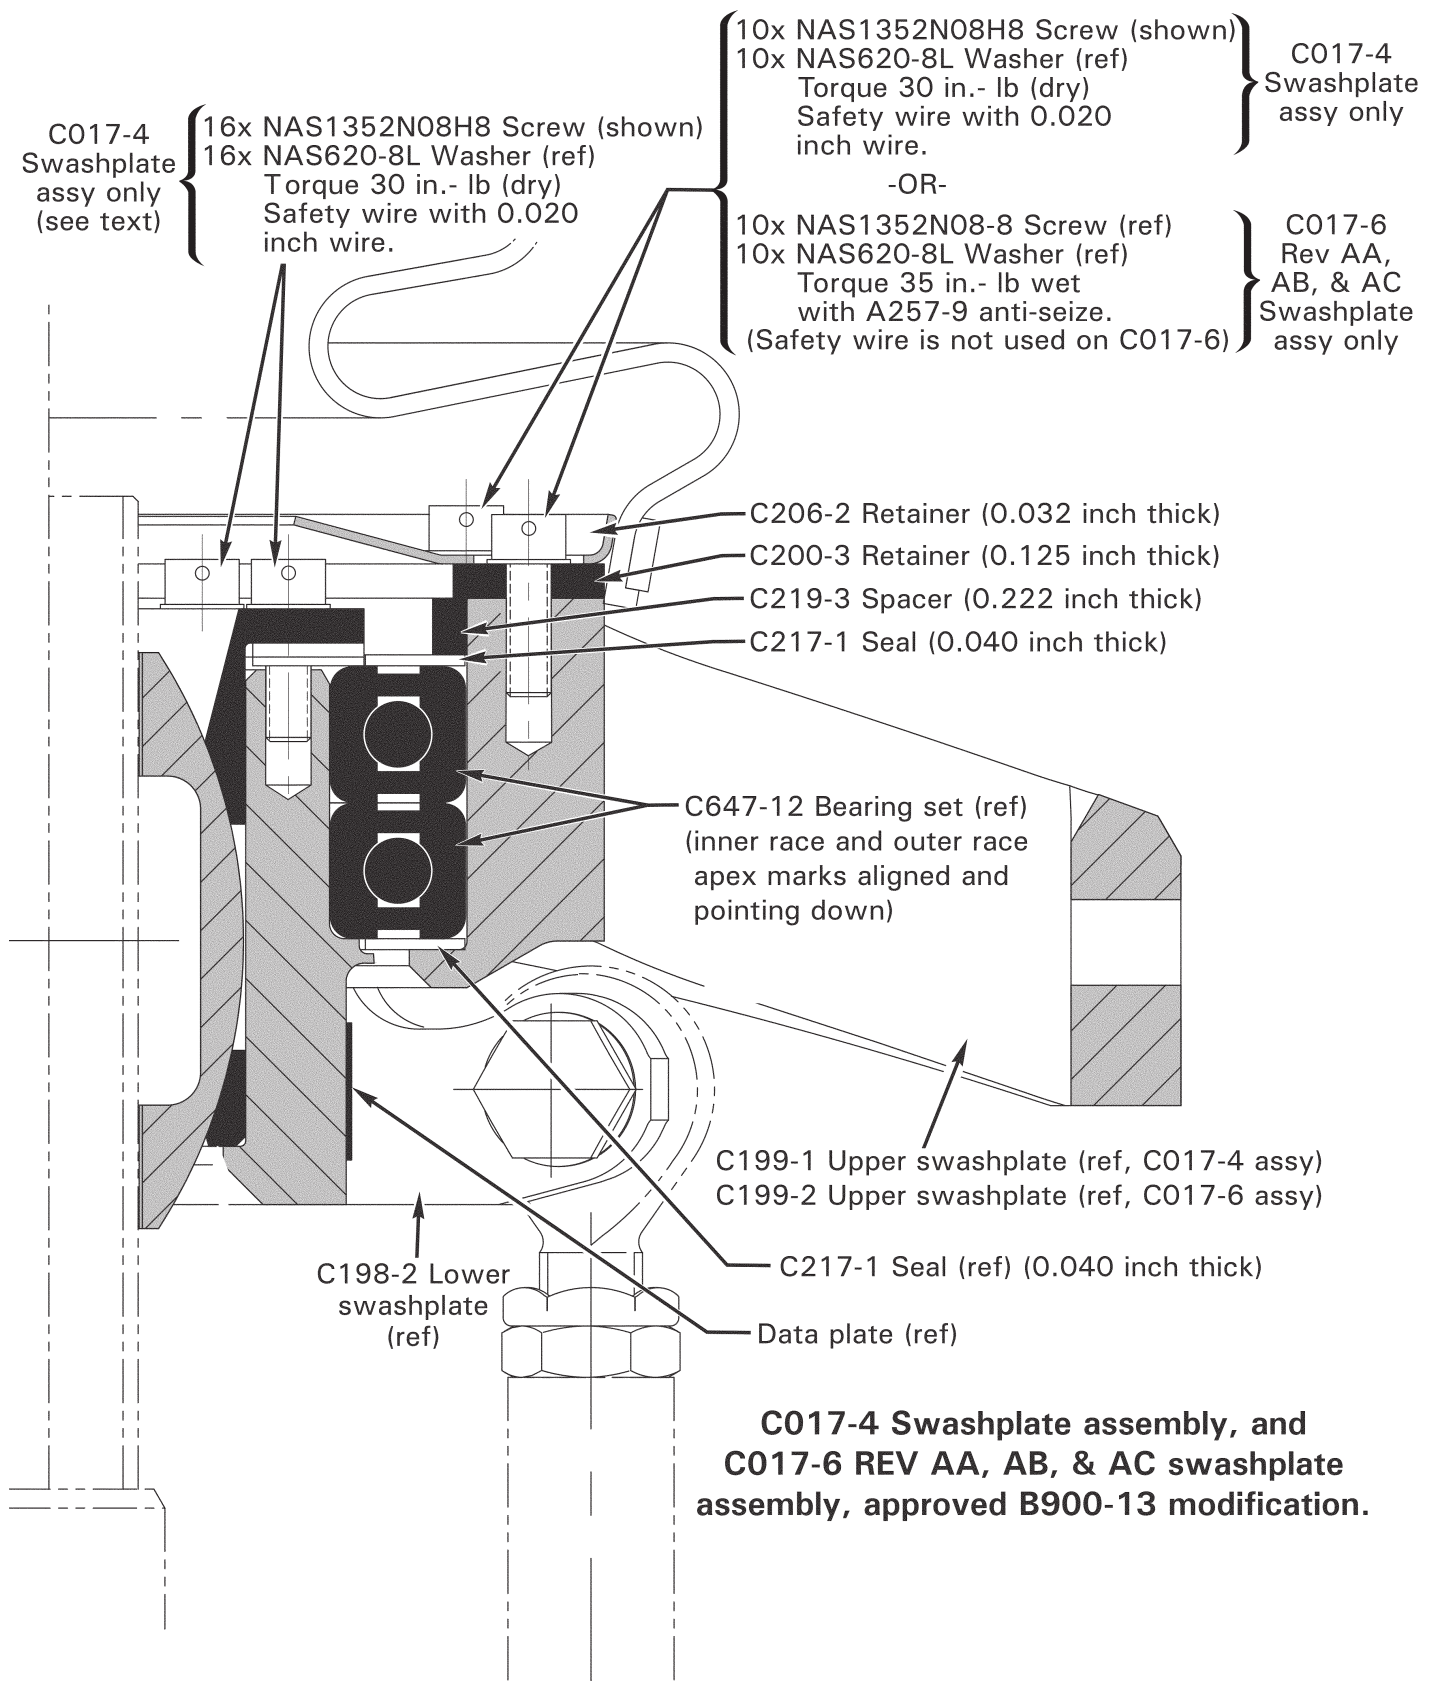

FIGURE 1
2. Install all of the following replacement parts per Figure 1: